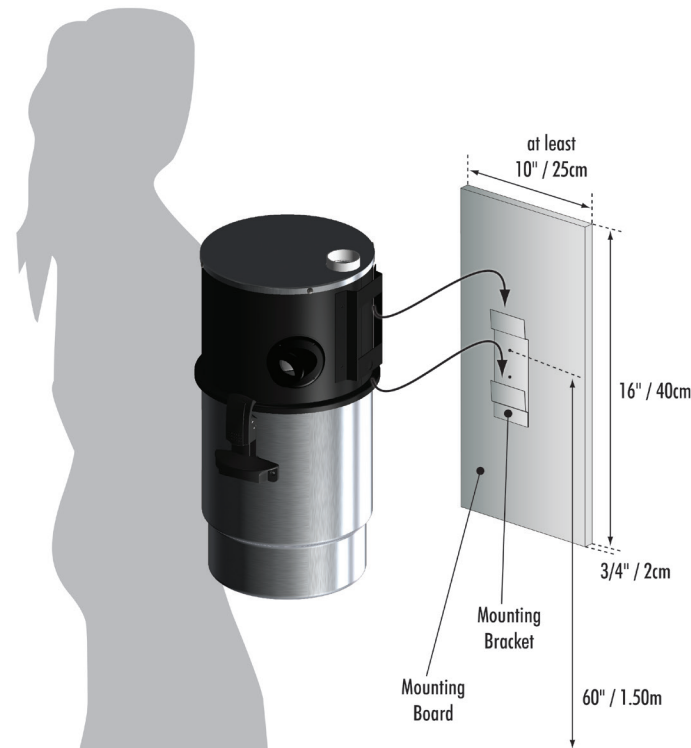

Fig. 1 Mounting the unit on the wall.
1. Determine the location of the power unit on the wall; we recommend that the mounting bracket be fastened at 60" / 1,5 m from the ground (Fig. 1) in order for the dust canister to be readily accessible; allow 12" / 30 cm clearance on all sides of the power unit. When possible, it is advisable to install the power unit on a concrete wall in order to minimize the vibrations;
4. Insert the power unit bracket into the mounting bracket (Fig. 1).